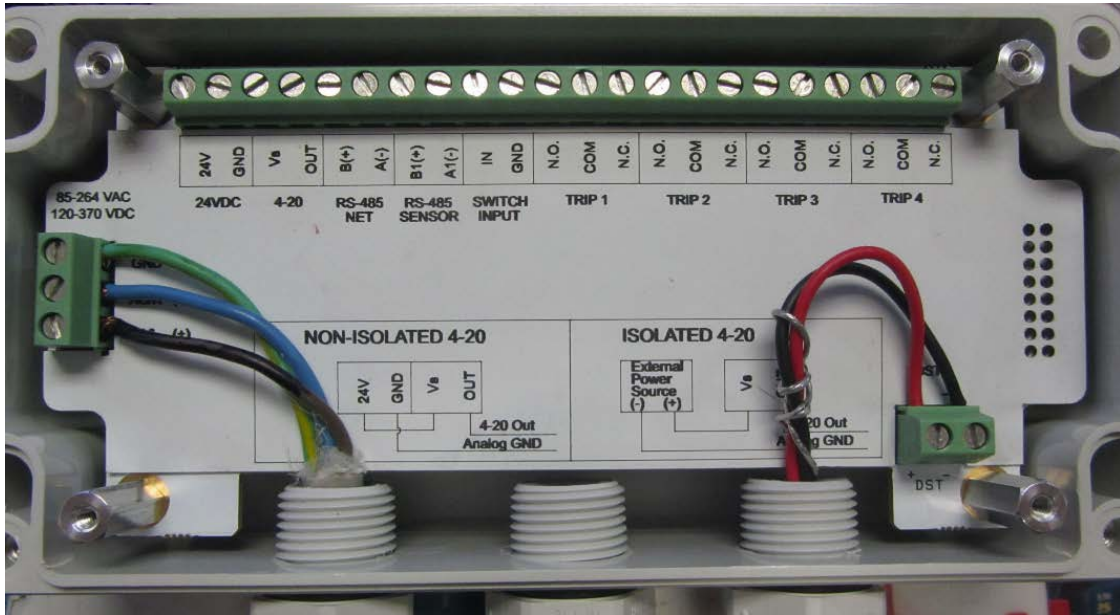

Figure 7.10 P/N 34701515 / 34702356
7.10.1 Install the PE bulkhead fitting per section 6.1 for sensors with male pipe threads. Install the sensor into the fitting with Teflon® pipe sealant. Remove the display unit box cover. Attach the display unit to the PE mounting plates provided on the tank with 4 ea. #10 S.S. Self-tapping screws. Attach the sensor cable to the control box with small strain relief and connect wires per label in the box. Please see Figure 7.10 below for sensor wire attachment information. Attach the unit to 110 VAC and test unit. The display unit is preprogrammed for the tank ordered. Refer to literature shipped with unit to answer any additional questions.